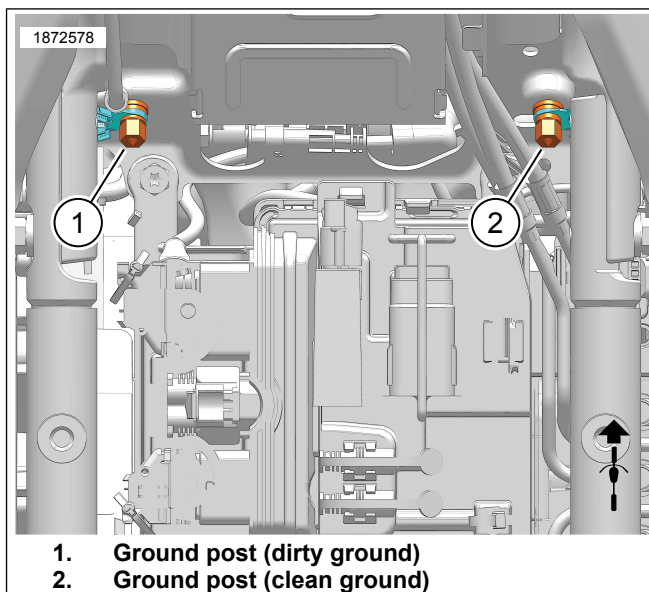

Figure 7. Battery Box Ground Post Locations
- b. See Figure 7. Route ground wire up through rectangular hole toward ground posts.
See Figure 7. Route and connect ATM ground wire to **clean** ground post (2). Tighten.